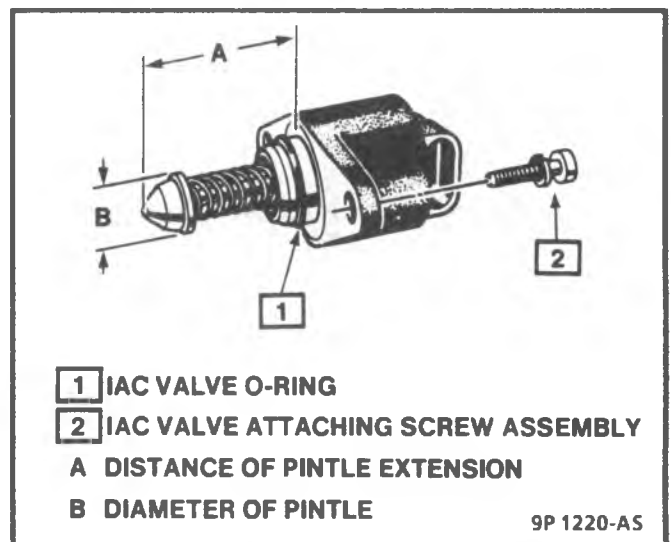

Figure 4-32 - Flange Mounted Type IAC Valve
- On flange-mounted units, remove screw assemblies (Figure 4-32)